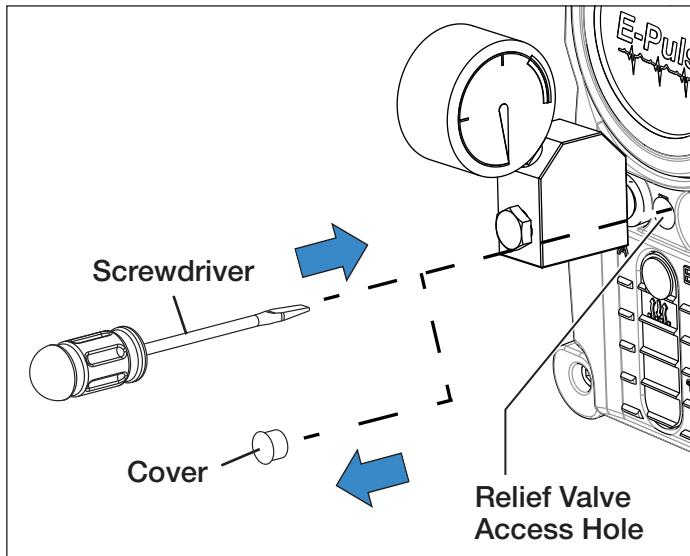

Figure 11, Pressure Relief Valve Adjustment
- Insert a flat blade screwdriver into the notch above the relief valve access hole. Remove the protective cover. See Figure 11.